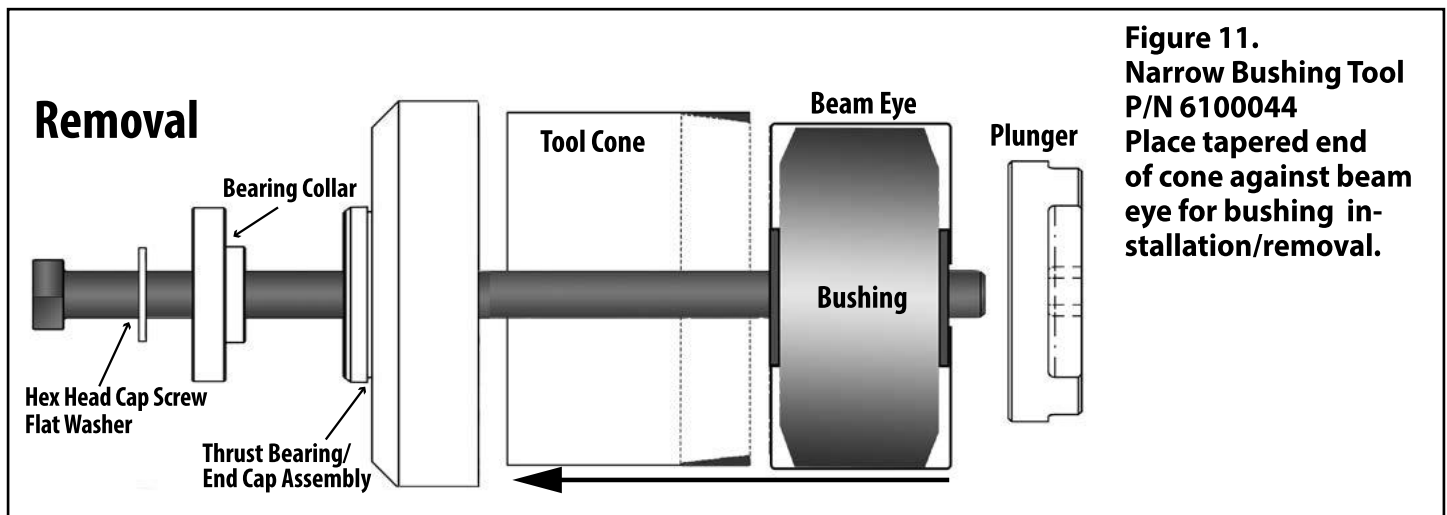

Figure 11.
Thread the flat washer, the bearing collar and the endcap onto the HHCS until the bearing collar and endcap rest against the head of the HHCS. Place tool cone onto endcap (Figure 11).
1. Push the hex-head cap screw through the bushing inner sleeve until the tool cone is against the beam eye. Thread the plunger onto the HHCS until the tool cone is held firmly against the beam (Figure 11).